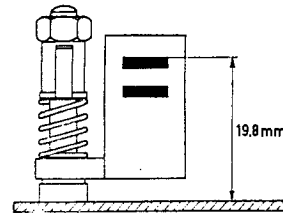

**Fig. 6 Switch Removal**
**9. Switch replacement (See Fig. 6)**
Remove the slider of the switch to be replaced (see above). Prise apart the two sections of the stator with a screwdriver blade as shown in Fig. 6. The stator halves can be unsoldered and removed separately from the printed panel.